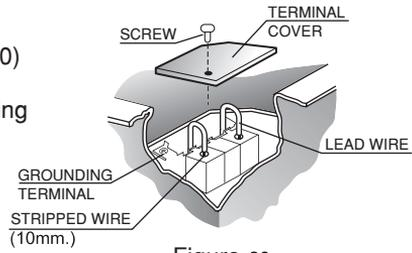

Figure.26
3. Model: **VD-18Z4T□, VD-20Z4T□** (as Figure. 26)